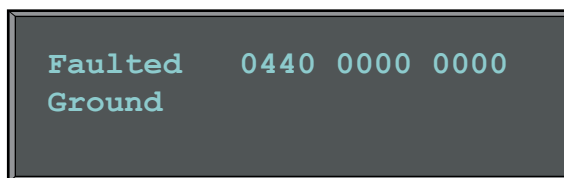

Figure 6-1 Ground Fault Error Message
- If the ground fault current exceeds 2A between the grounded array terminal and the earth ground, the fuse will “blow” and disconnect the solar panels from their ground reference, interrupting the ground fault. In this situation, the inverter will cease operation and display a fault message (see Figure 6-1). Additionally, the LED on the GFDI PCB will illuminate.
If the inverter displays a ground fault as shown in Figure 6-1, turn OFF the AC and DC to the inverter and refer to *7. Maintenance and Troubleshooting*.